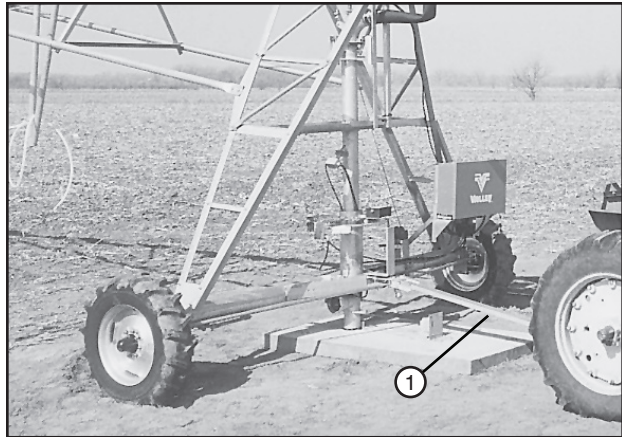

Figure 52-1 1. Tongue
12. Attach the tongue to the towing unit. See figure 52-1.